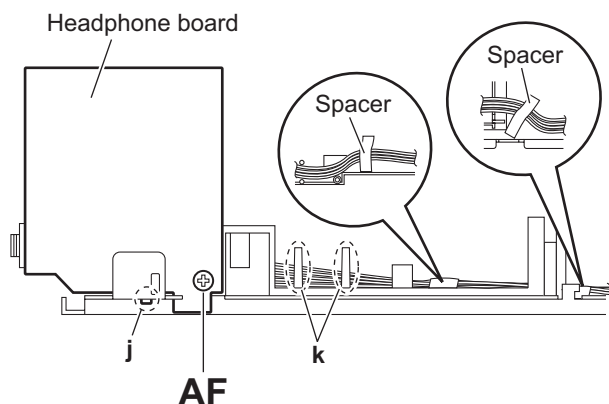

Fig.25
3.1.18 Removing the headphone board (See Fig.25)